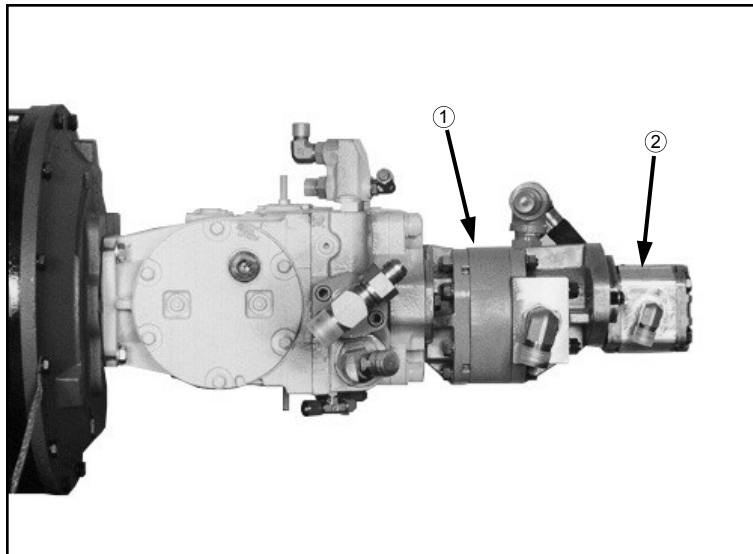

FIG 5.14
The front, larger gear pump (fig. 5.14, item 1) supplies only the cutters or pullers. The rear, smaller gear pump (fig. 5.14, item 2) supplies power steering and the lift cylinders.